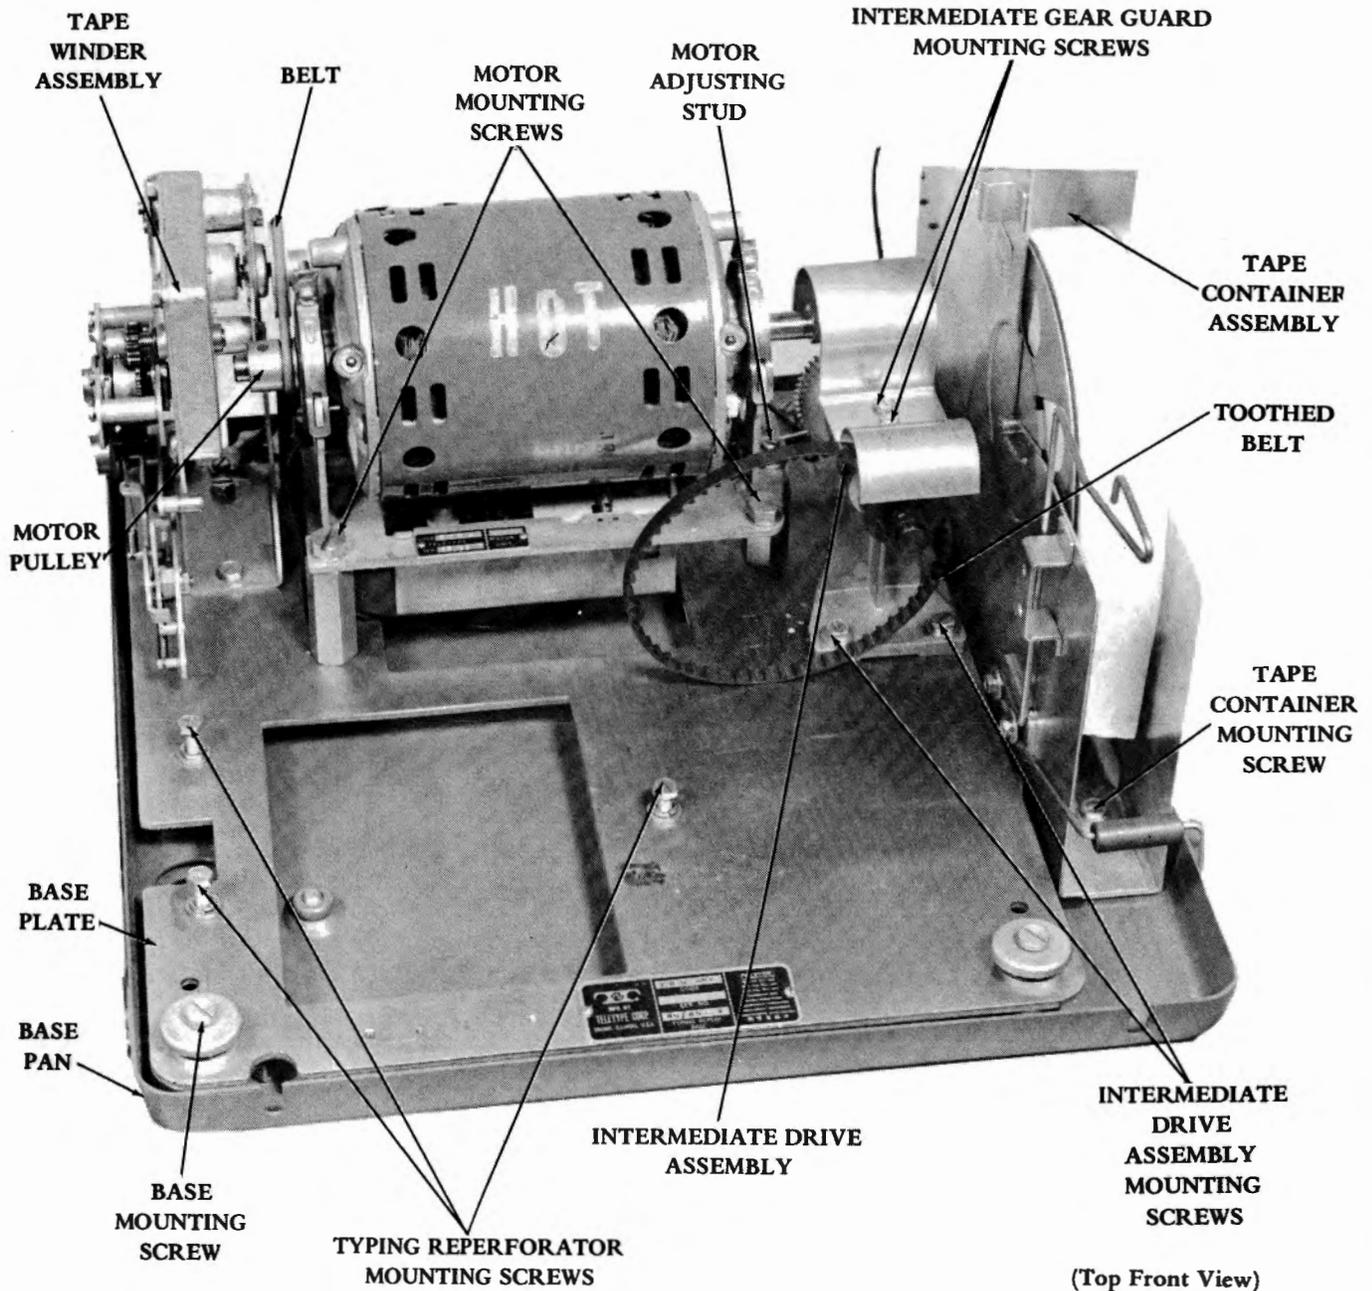

Figure 5 - Typing Reperfocator Removed
2.03 To remove the motor unit (Figures 5 and 6), proceed as follows.
2.04 To remove the intermediate drive assembly (Figures 5 and 6), proceed as follows.
2.05 To remove the tape winder mechanism (Figures 5 and 6), proceed as follows.
2.06 To remove the tape container assembly (Figures 5 and 6), proceed as follows.
2.08 To remove the base plate (Figures 5 and 6), proceed as follows.